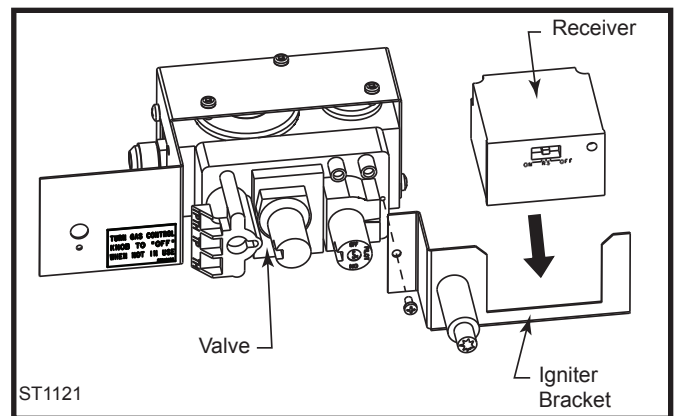

Fig. 54 Install receiver.
1. Slide receiver into igniter bracket as shown in Figure 54.
For stoves equipped with HI/LO valves, flame adjustment is accomplished by rotating the HI/LO adjustment knob located near the center of the gas control valve. (Fig. 54)